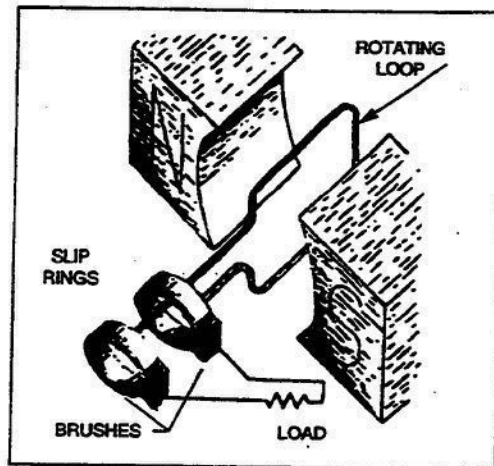

Figure 2-58. Simple alternator.
**Simple alternator.** The construction of a simple, two-pole alternator is shown in figure 2-58. Notice that the conductor has been formed into a loop within the magnetic field. The rotating loop and its supporting structure is called an *armature*. The free ends of the loop are attached to cylindrical pieces of metal called *slip rings* which rotate along with the loop. As the loop rotates, the induced voltage appears at the slip rings. In order to connect the stationary load to the rotating loop without the possibility of the leads twisting as the loop rotates, sliding contacts, called *brushes*, are used. These are generally made of carbon and press against the slip rings to form a rotating contact. Any voltage present on the rings is transferred to the stationary brushes and hence to the load.